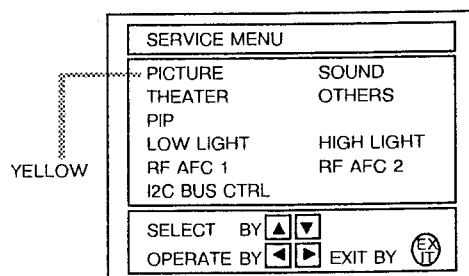

Fig. 1 SERVICE MENU
(1) How to enter the SERVICE MENU.
- Press the DISPLAY KEY and VIDEO STATUS KEY of the REMOTE CONTROL UNIT at the same time to display the SERVICE MENU screen shown in Fig.1.